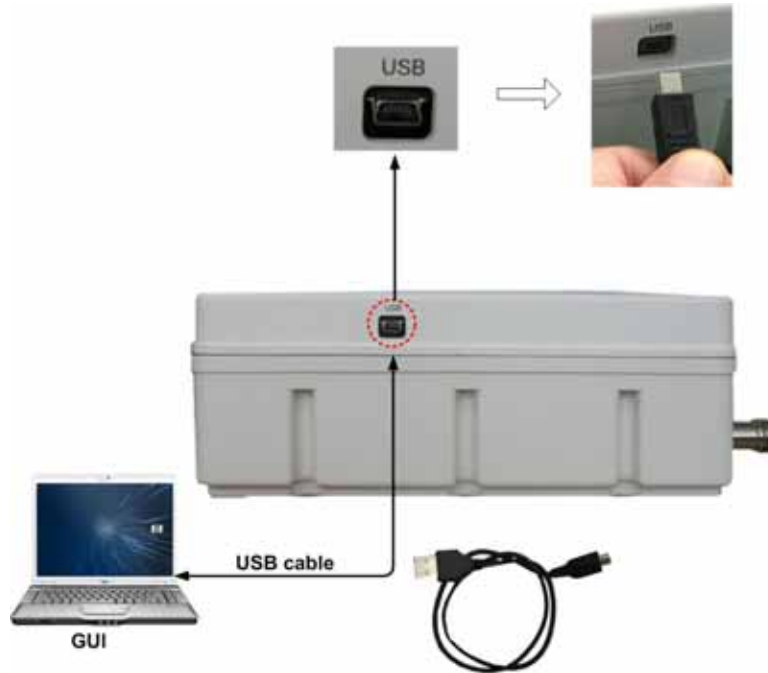

Figure 13 Connection of Laptop PC in BDA
- Connect Laptop PC to BDA controller as figure 13. connection of Laptop PC in BDA.